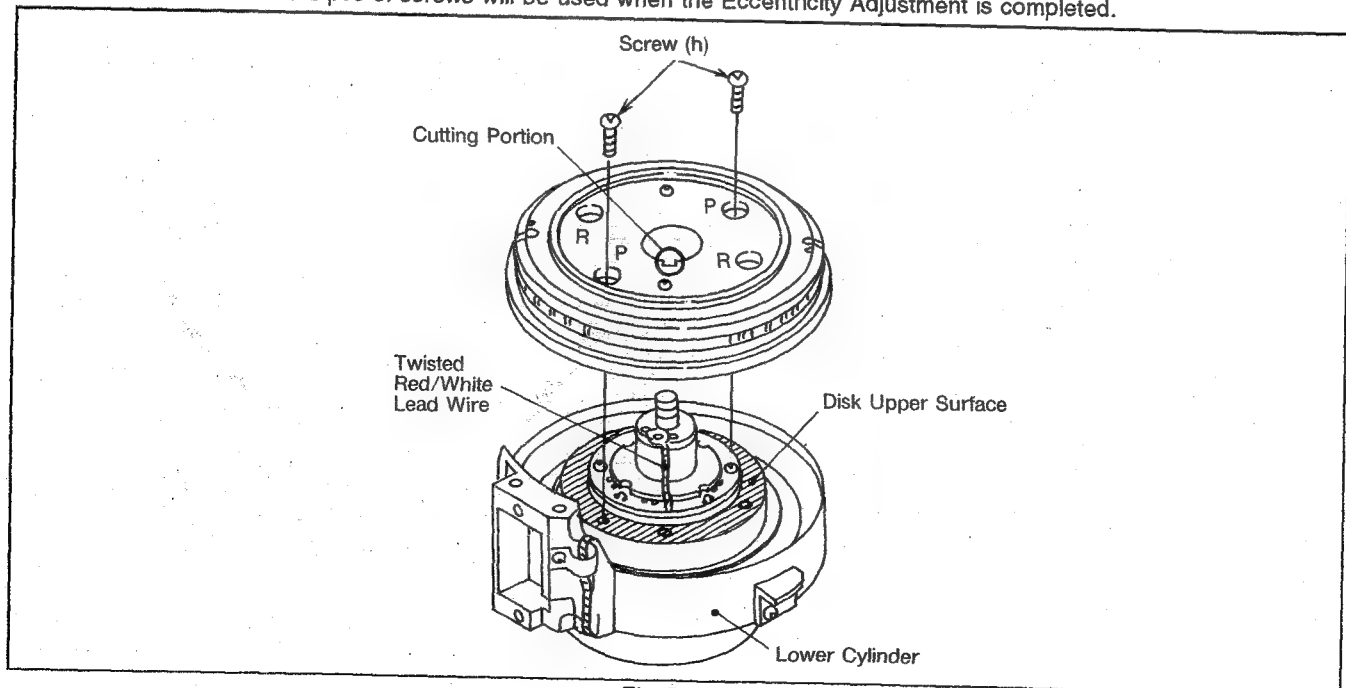

Fig. 7-7-5
2) Mount Center Drum Unit as shown in figure 7-7-5.